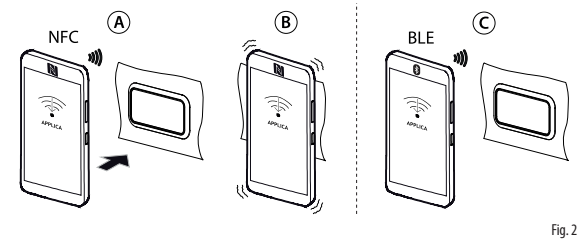

Fig. 2
- move the mobile device near to the user terminal, maximum distance 10 mm, so as to recognise the configuration (Fig. 2 - **ref. A**);
- move the mobile device near to the user terminal again to upload the configuration parameters (Fig. 2 - **ref. B**);
- move the mobile device near to the user terminal, maximum distance 10 m, to recognise the configuration (Fig. 2 - **ref. C**);